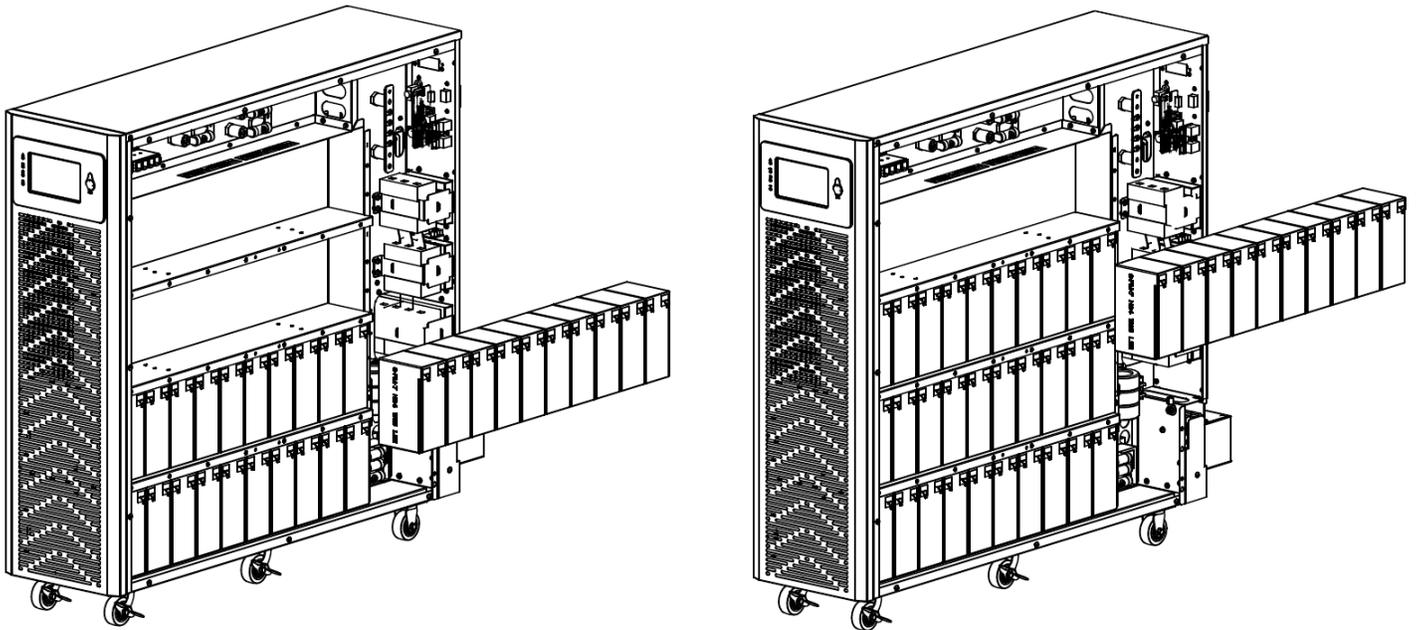

Figure 3-10: Install batteries on the third and fourth shelves on the right side.
- Install 10 batteries on the third and fourth shelves on the right side (Figure 3-10). Always keep the terminal side of all batteries facing up.